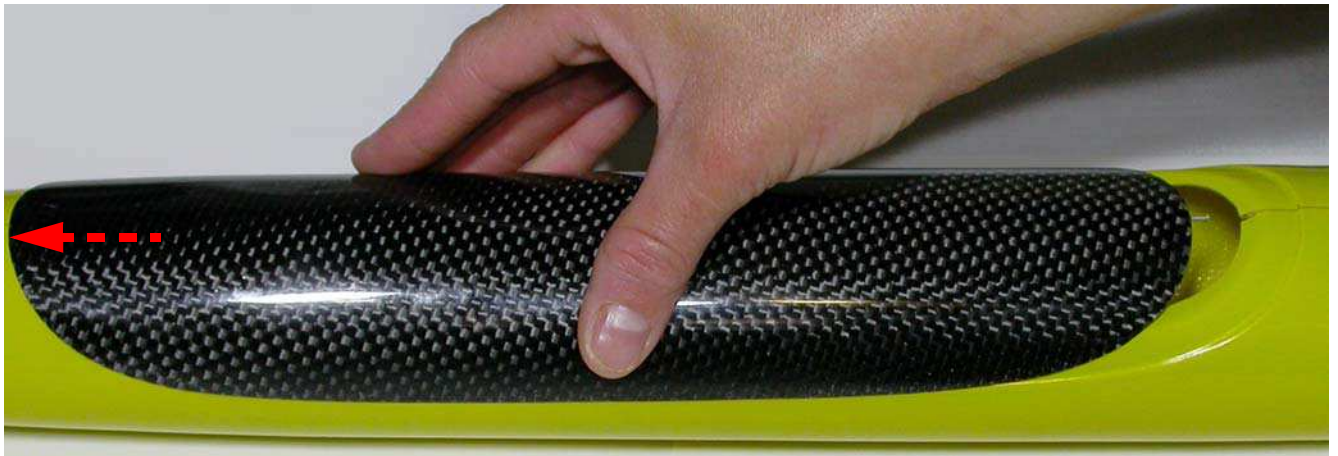

Fig.113: Push the canopy forwards.
- push the canopy in the direction shown in figure 113;